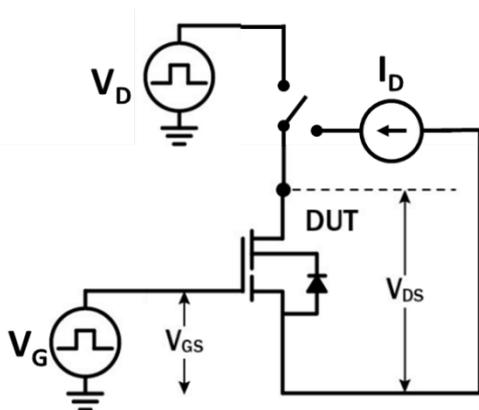

Figure 20. Dynamic $R_{DS(on)eff}$ Test Circuit
1. Dynamic R_{DS(on)}, 100% tested; see Figure 20 and Figure 21 for conditions.